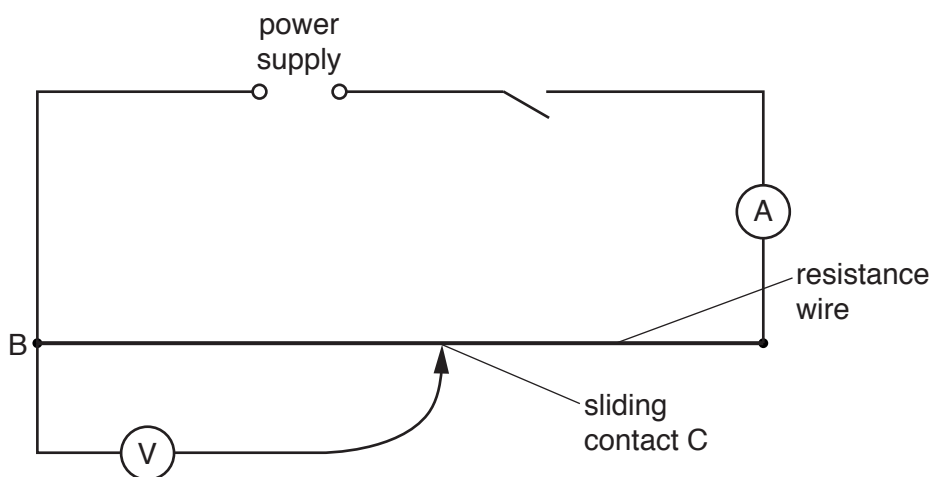
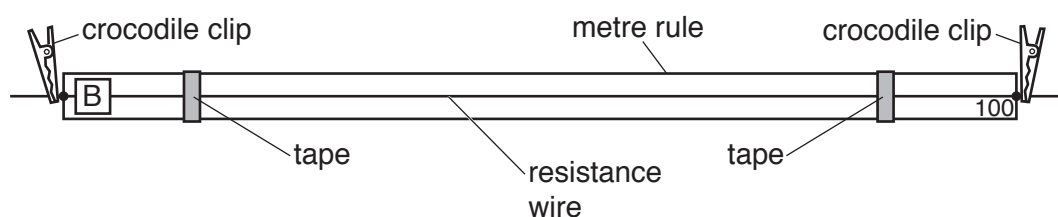

Fig. 2.1
Fig. 2.2
- (vi) Two suitable terminals (e.g. crocodile clips) attached to the constantan wire at the ends of the metre rule so that connections can be made to the circuit shown in Fig. 2.1.
- (viii) Sufficient connecting leads to set up the circuit shown in Fig. 2.1.
1. The circuit is to be set up for the candidates as shown in Fig. 2.1 and Fig. 2.2.
4. The wire must be attached to the metre rule as shown in Fig. 2.2.
Check that the circuit is arranged as shown in Fig. 2.1.